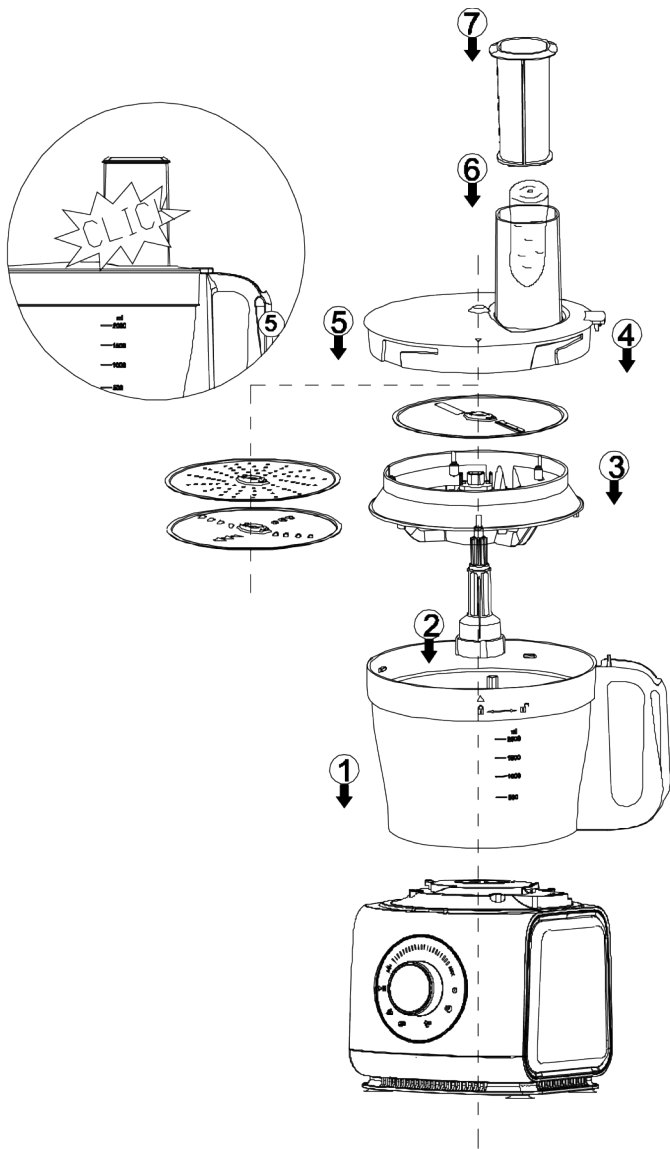

Fig2. For shredding, slicing and mashing blade
**Disc for shredding , slicing and mashing (12-14) (installation refer to Fig2)**